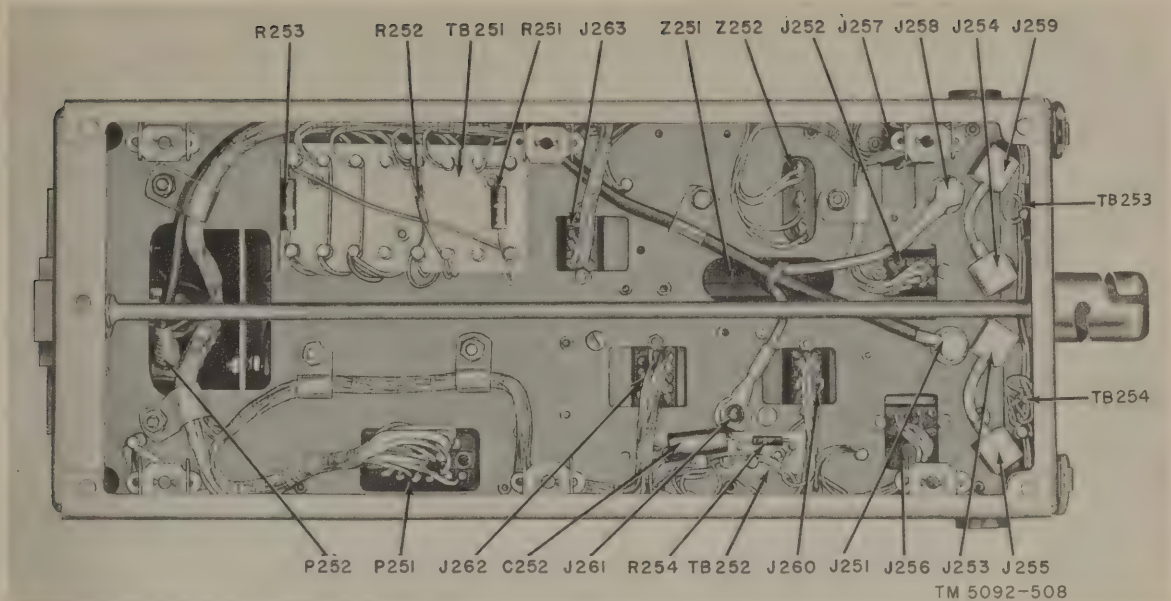

Figure 56. Radio Receiver R-394/U, base, bottom view.
a. General. Refer to figures 56 through 68 for locations of the parts in the assemblies of Radio Receiver R-394/U.